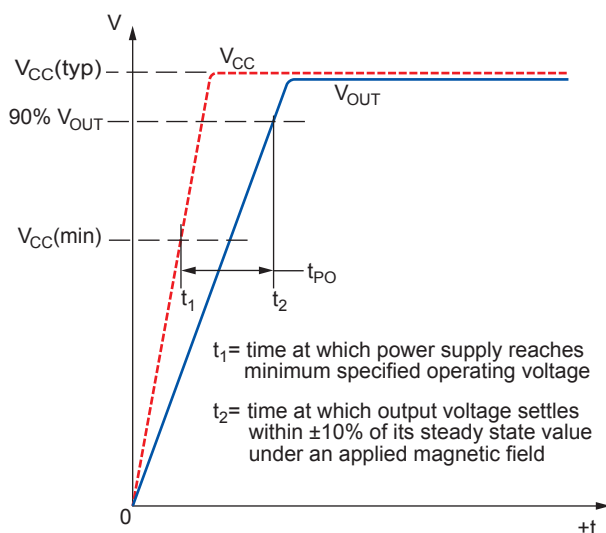

Figure 1. Definition of Power On Time,  $t_{PO}$
**Power-On Time.** When the supply is ramped to its operating voltage, the device output requires a finite time to react to an input magnetic field. Power-On Time,  $t_{PO}$ , is defined as the time it takes for the output voltage to begin responding to an applied magnetic field after the power supply has reached its minimum specified operating voltage,  $V_{CC}(\min)$ , as shown in figure 1.